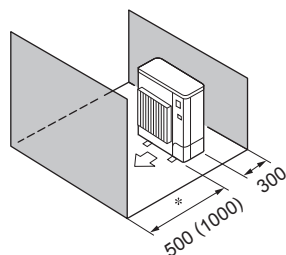

Fig. 1-9
- ⑤ Obstacles at front and rear only (Fig. 1-9)